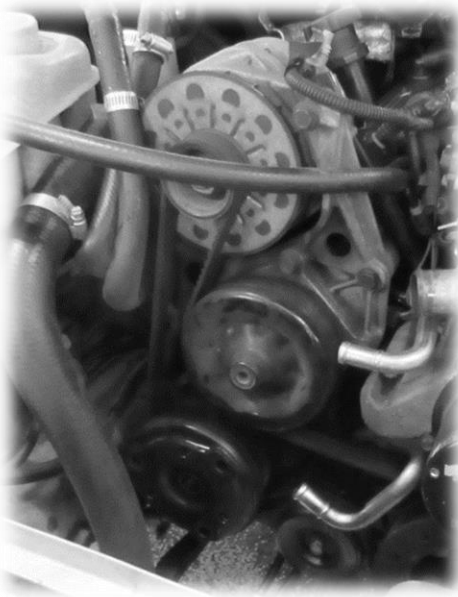

Figure 5 – Heater core hoses removed
4. Once the coolant is drained, loosen and remove the upper radiator hoses from the radiator (Fig. 5).
5. Remove the heater core hoses from the water pump housing. Be prepared for these to drain additional fluid that was not completely drained during previous steps. (Fig. 5)